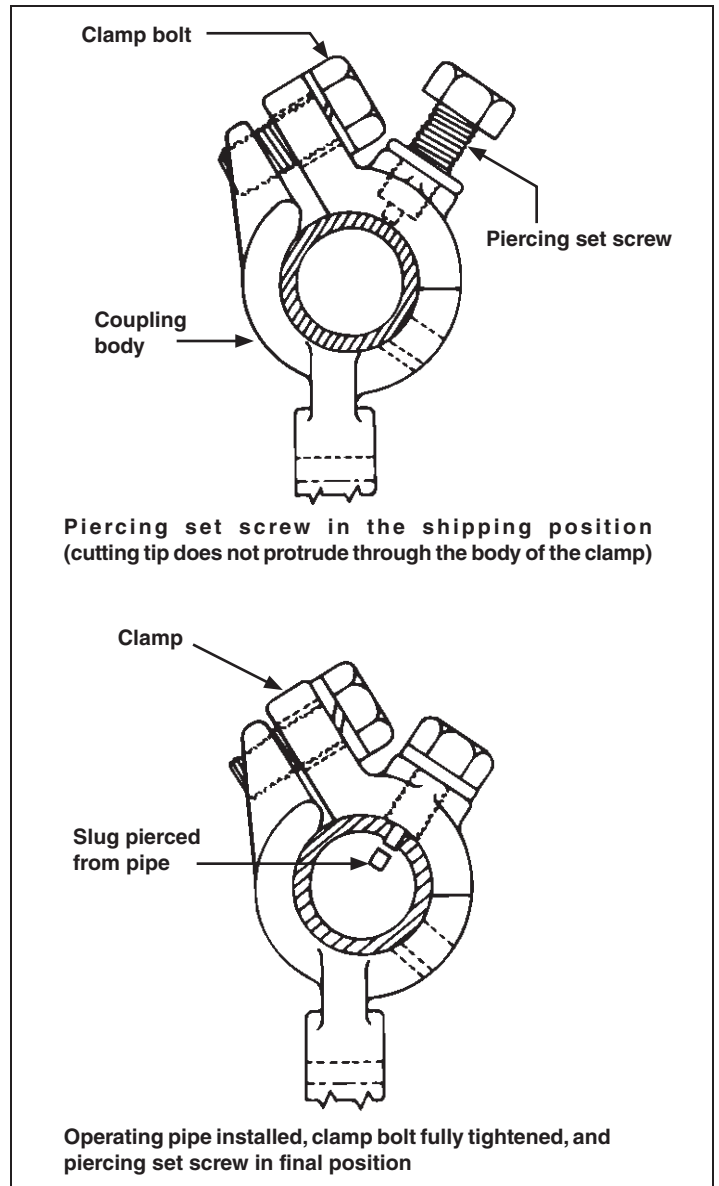

Figure 4. Install the pipe couplings with piercing set screws.
STEP 5. The interphase operating pipe, vertical operating pipe, and rotating operating handle use piercing set screws to couple to the operating pipe. See Figure 4. Before installing the interphase pipe sections, check that the cutting tip of each piercing set screw does not protrude into the body of the coupling.